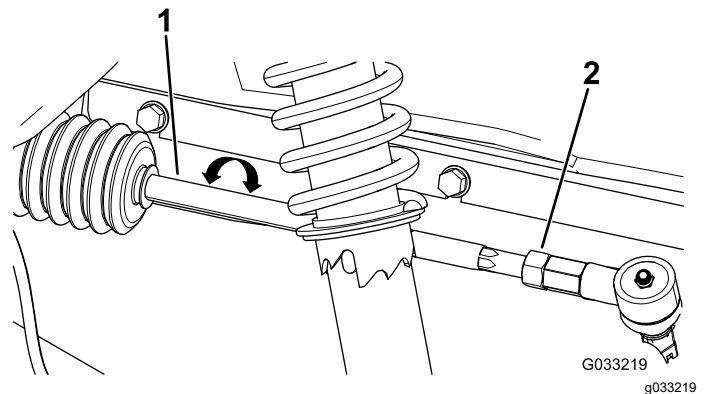

Figure 55
3. If the measurement does not fall within 0 to 6 mm (0 to 1/4 inch), loosen the jam nuts at the outer end of the tie rods (Figure 55).